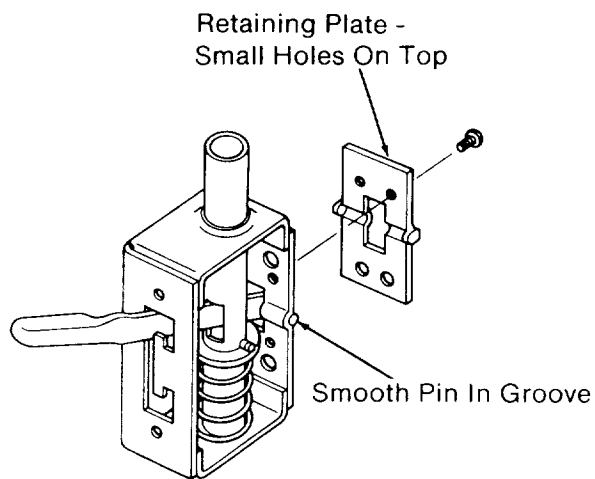

Fig. 26
13. Place two Phillips head screws in the top two holes and tighten using a Phillips screwdriver. (Figures 26 & 27)